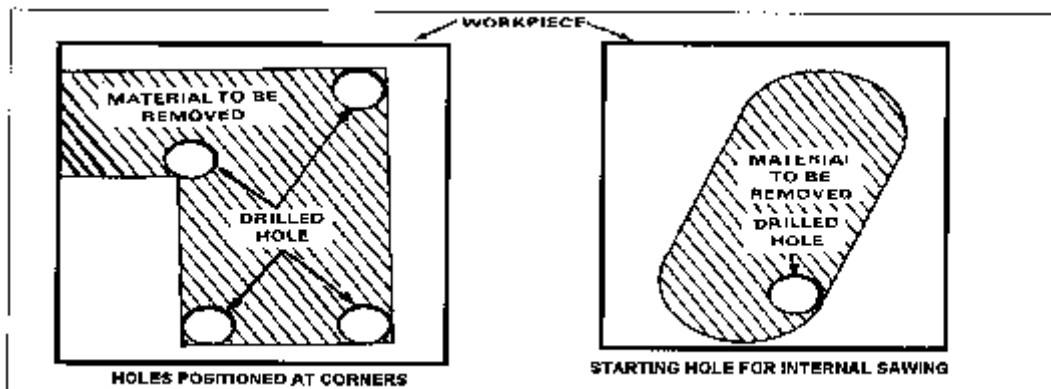

Figure 6-15. Hole layout for contour sawing.
- If an internal section is to be removed from the stock and the edge must remain unbroken, layout and drill a starting hole (Figure 6-15) using a drill larger in diameter than the, width of the band saw blade. The bandsaw blade will be inserted through this hole before being welded into a band and installed on a bandsawing machine.